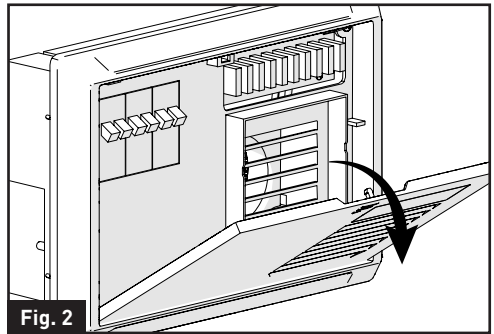

Fig. 2
3. Push the power center front cover around to the position of "F" mark and rotate downwards to fully open it. (Fig. 2)